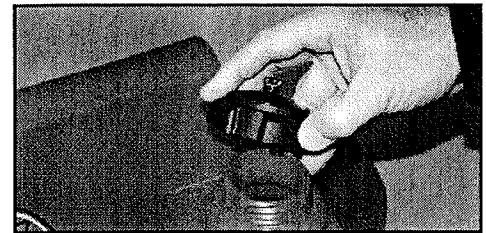

Fig 2
7. Stand upright and install the filler/vent cap to the 2" filler neck. (See Fig. 2)